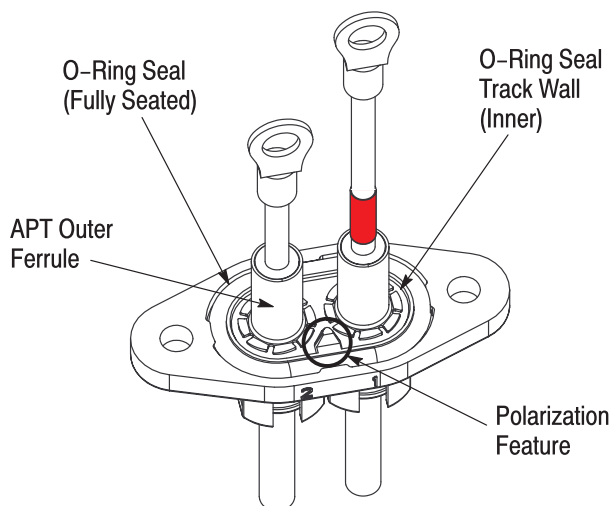

Figure 3
2. Identify the polarization feature that is located at the back face of the APT housing as shown in Figure 3.
3. Make sure that the O-ring seal is present and fully seated in its seal track in the APT housing as shown in Figure 3.
4. Check that the APT outer ferrules are located and fully seated within the elliptical boundary provided by the inner wall of the O-ring seal track as shown in Figures 3 and 4.